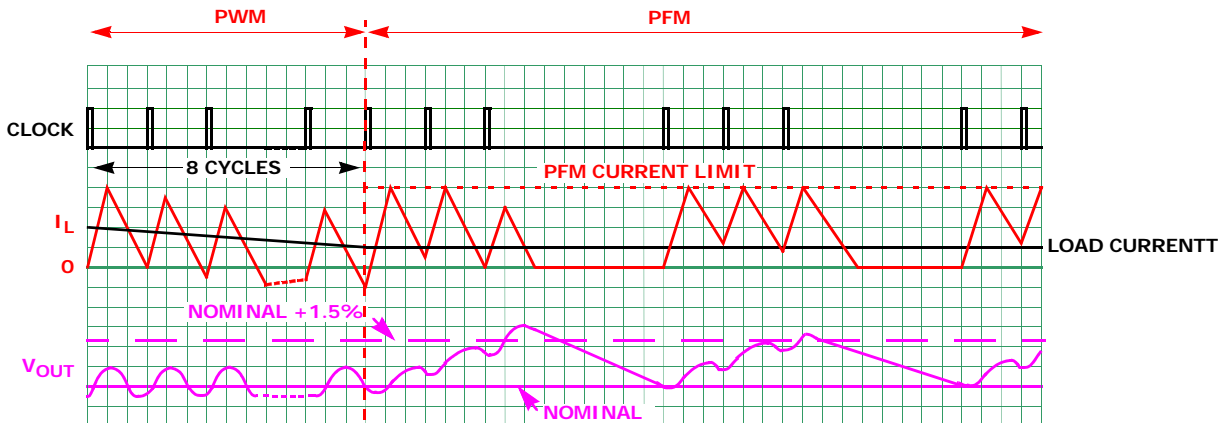
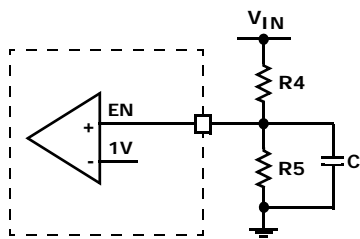
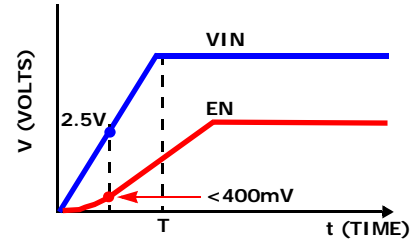

FIGURE 37. SKIP MODE OPERATION WAVEFORMS
FIGURE 38. EXTERNAL RESISTOR DIVIDER
FIGURE 39. CIRCUIT IMPLEMENTATION WITH V_{IN} SLEW RATE
Pulling the SYNCH pin LO (<0.4V) forces the converter into PFM mode. The ISL8014 enters a pulse-skipping mode at light load to minimize the switching loss by reducing the switching frequency. Figure 37 illustrates the skip-mode operation. A zero-cross sensing circuit shown in Figure 2 monitors the N-MOSFET current for zero crossing. When 8 consecutive cycles of the inductor current crossing zero are detected, the regulator enters the skip mode. During the eight detecting cycles, the current in the inductor is allowed to become negative. The counter is reset to zero when the current in any cycle does not cross zero.
When the input voltage is below the undervoltage lock-out (UVLO) threshold, the regulator is disabled. To adjust the voltage level of power on and UVLO, use a resistive divider across EN. The input voltage programming resistor R_4 will depend on on the bottom resistor R_5 , as referred to in Figure 38. The value of R_5 is typically between 10k Ω and 100k Ω .
The enable (EN) input allows the user to control the turning on or off the regulator for purposes such as power-up sequencing. When the regulator is enabled, there is typically a 600 μ s delay for waking up the bandgap reference and then the soft-start-up begins. It is recommended that the EN voltage should be kept logic low (less than 400mV), until V_{IN} reaches 2.5V. Refer to Figures 38 and 39 for suggested circuit implementation with V_{IN} slew rate.
| 11/23/09 | FN6576.4 | Updated on page 13 in UVLO section, last sentence from "...programming resistor R5..., The value of R4..." to "...programming resistor R4..., The value of R5...". Replaced Figure 38, Removed Equation after Figure 38. Reworded last sentence in Enable section from "It is necessary to keep the voltage on the EN low until Vin is greater than 2.5V" to "It is recommended that the EN voltage should be kept logic low (less than 400mV), until VIN reaches 2.5V. Refer to Figure 39 for suggested circuit implementation with VIN slew rate. Added Figure 39. Added Equations 1 and 2 and referencing text. Added Revision History and Products information. Moved Soft-Start section to read after PG section on page 13, changed "R4" to "R5" in last sentence of UVLO section, added reference of both Figures 38 and 39 in Enable section. |
| 09/10/09 | FN6576.3 | 9/10/09: Page 6; Revised last sentence of EN section from: "Do not leave this pin floating." TO: "Do not connect directly to VIN or leave this pin floating." 9/2/09: Page 2: Order Info: Added MSL link to Order Info per new standard Page 2: Revised Typical Application Diagram Pages 4-5: Per new Intersil standard: Added "Boldface limits apply over the operating temperature range, -40°C to +85°C." to common conditions of Electrical Specs table. Bolded MIN MAX columns where applicable. Moved "Parameters with MIN and/or MAX limits are 100% tested at +25°C, unless otherwise specified. Temperature limits established by characterization and are not production tested." from common conditions of Electrical Specs table to note in Min Max columns. Page 6: Added following sentence to EN pin description: " Keep the EN voltage low in disabled state until Vin settle or above 2.5V." Revised "FIGURE 37. SKIP MODE OPERATION WAVEFORMS" Page 14: Added FIGURE 38. EXTERNAL RESISTOR DIVIDER graphic and following sentence to UVLO section: "To adjust the voltage level of power on and UVLO, use a resistive divider across EN. The input voltage programming resistor R5 will depend on on the bottom resistor R4, as referred to in Figure 38. The value of R4 is typically between 10kohm and 100kohm." Added equation 1 to UVLO section: Added following sentence to Enable section: "It is necessary to keep the voltage of the EN low until Vin is greater than 2.5V." |